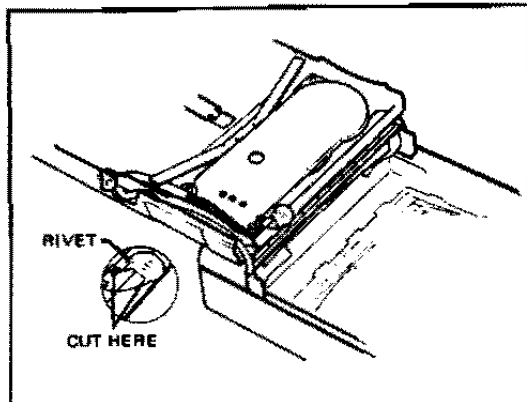

FIG. 4-14 REMOVING THE TIMER FILTER CAPACITOR
- c. With battery drain in excess of 10 microamps, the timer filter capacitor (Figure 4-14) must be replaced. The manner in
citor leads as shown in Figure 4-14 and continue below.